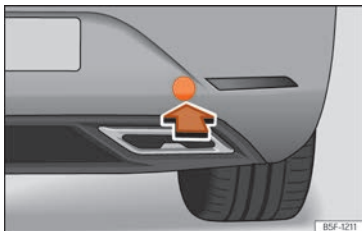

Fig. 48 On the right side of the rear bumper: remove the cover.
The housing of the screw towing eye is on the right side of the rear bumper behind a lid » **Fig. 48**.
- Press the bottom side of the lid » **Fig. 48** to unclip it.